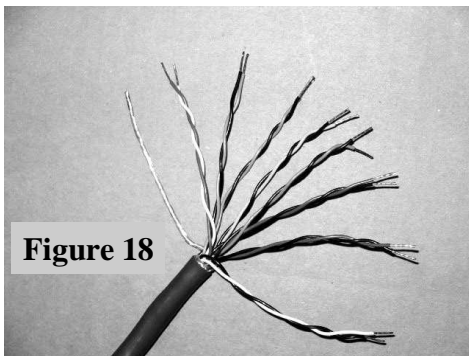

Figure 18
3. Locate the 16 conductor cable that goes to the controller. If it is not already coiled neatly, coil it before proceeding. Follow the same procedure as above and connect each colored wire. The 16 conductor control cable has eight pairs of wires, each pair twisted together and with heat shrink at the factory. **It is imperative that these twisted pairs do not get mixed up, or you will have to use an volt/ohm meter to ascertain which pairs match correctly.** **Figure 18** shows the respective pairings: black/white; brown/black; red/black; orange/black; yellow/black; blue/black; green/black and white/red. This sequence is exactly the order in which to connect the wires, as shown in **Drawing 4**. Follow the same procedure as above and connect each colored wire. **Coat each wire with connector protector. Don't forget to coat the bare ground wire.**